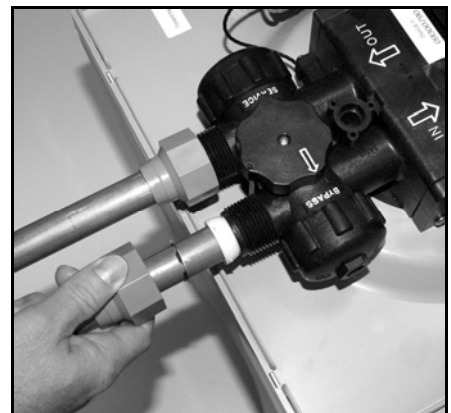

Figure 3: Connect Water Lines.
C. Attach the water lines to the appliance in compliance with all applicable building, plumbing, and electrical codes. (See Figure 3.) Do NOT overtighten the connections on the plastic threads.